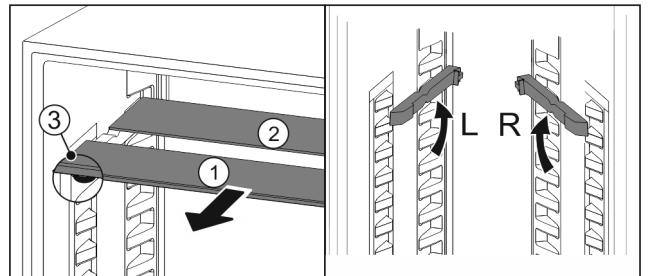

Fig. 81
- Pull the glass panels out Fig. 81 (1) from the front, one at a time.
- ▷ The glass panel Fig. 81 (1) and trim strip are at the front.
- ▷ The stops Fig. 81 (3) point down.